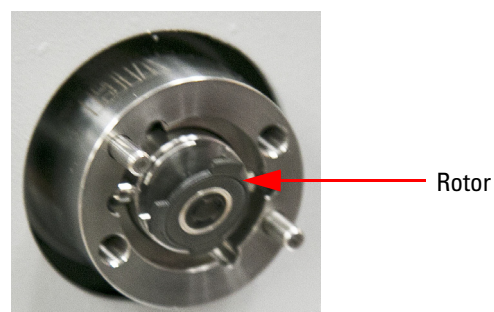

Figure 5-6 Removing the rotor
3. When the stator is removed, use your finger or a small tool to pry the black plastic rotor out of its recess (Figure 5-6).